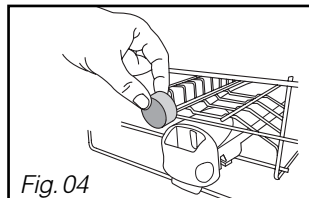
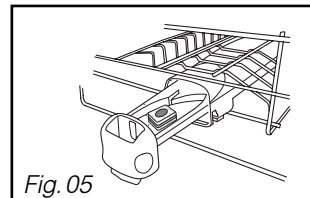

Fig. 04
Fig. 05
Non-multipurpose tablets should be placed in the external compartment (Fig 04) or, for optimum performance, pull out the dispenser drawer and lay the tablet inside (Fig 05).
- **Place the tablet** in the external compartment (Fig 04 on previous page) or, for optimum results, pull out the distributor’s drawer and lay the tablet inside (Fig 05 on previous page).